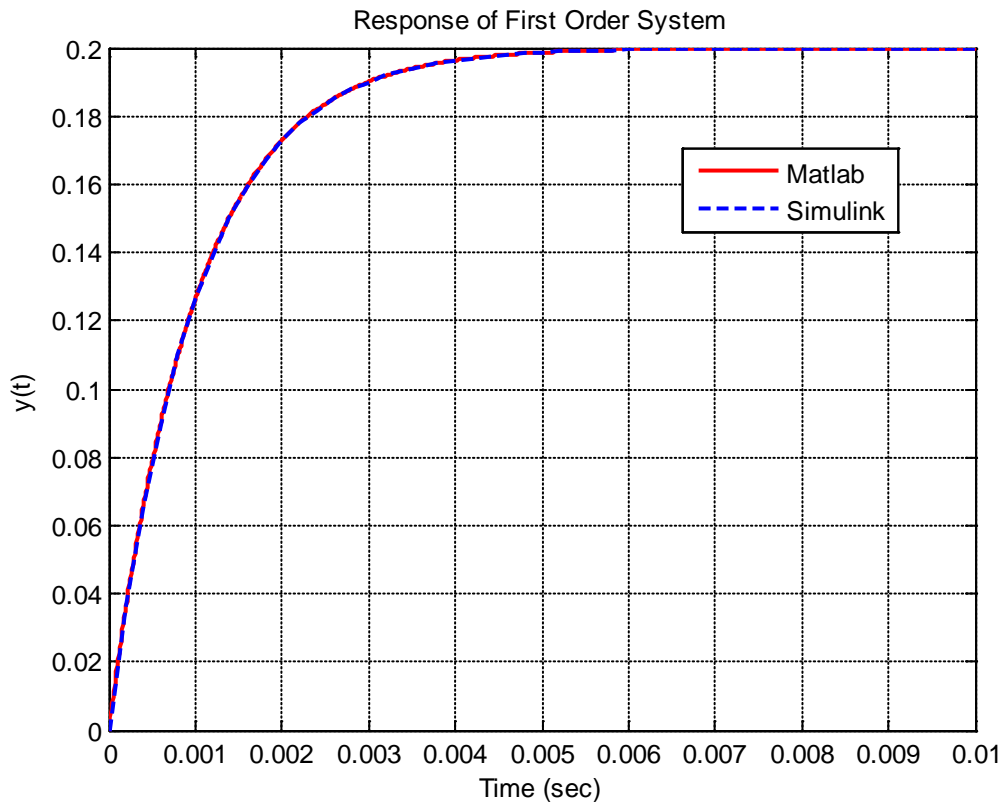

Figure 1. Response of first order system to a step of amplitude 0.1
8) You should now pretty up your plot so it looks like the plot in Figure 1. Note that I have really plotted more than one graph in this figure, which you will do shortly.
14) At this point you have results from both Matlab (t,y) and Simulink (ts, ys). Modify your m-file to plot both of these results on the same graph. Use two different line types and colors, use a grid, label the x-axis etc. so your results look like that in Figure 1. You need to include your graph in your memo.